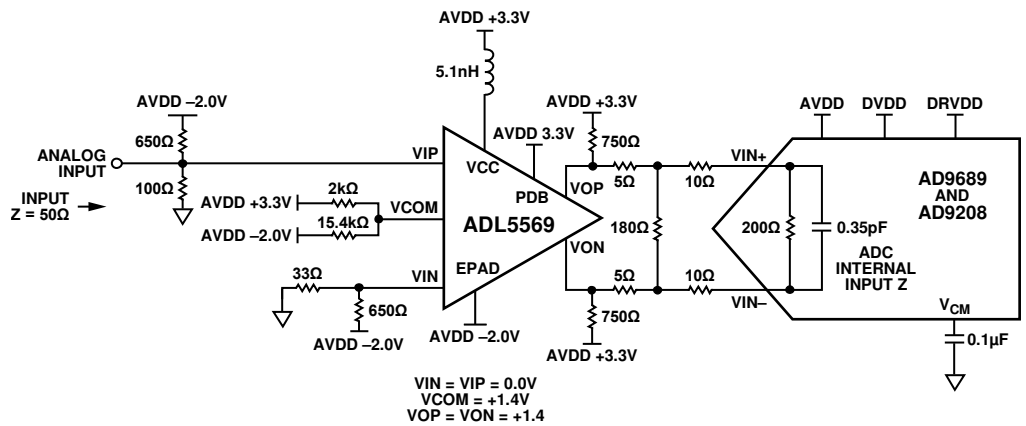

Figure 52. 1.5 GHz Bandwidth, DC-Coupled ADC Interfacing Example: ADL5569 Driving the AD9689 and AD9208
For dc applications, special requirements must be completed for the ADL5569 to accommodate a dc signal and level shift the amplifier to meet the common-mode voltage requirements of the companion converter. Figure 52 shows a 1.5 GHz design example of the ADL5569 using dual supplies of +3.3 V for the VCC and VCC2 pins and -2.0 V for the ground and exposed pad (EP) pins. By using these dual supplies, the internal logic of the power-down pins of the device (PDB and PDB2) is also level shifted to 1.0 V to enable the device.
The example shown in Figure 52 provides a single-ended input design, with an input common-mode voltage of 0.0 V. The output common-mode voltage is designed to accommodate 1.4 V to interface with the AD9689 analog inputs.